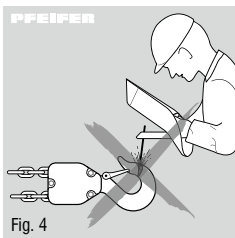

Fig. 4
- Welding on the hook or load chain is forbidden. The load chain must not be used as an earthing connection when welding (Fig. 4).